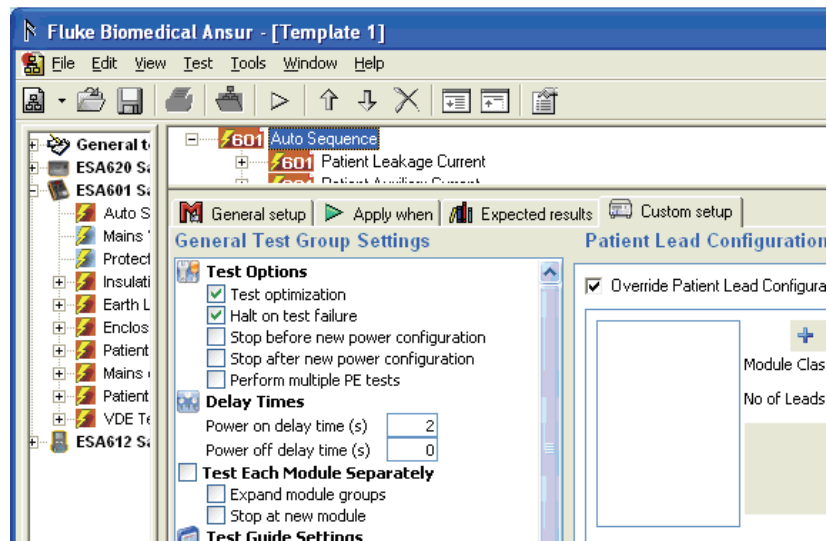

Figure 4-7. Configuring Module Testing
3. Click the **Test Each Module Separately**, **Expand module groups**, and **Stop at new module** checkboxes in the General Test Group Settings area as shown in Figure 4-7.